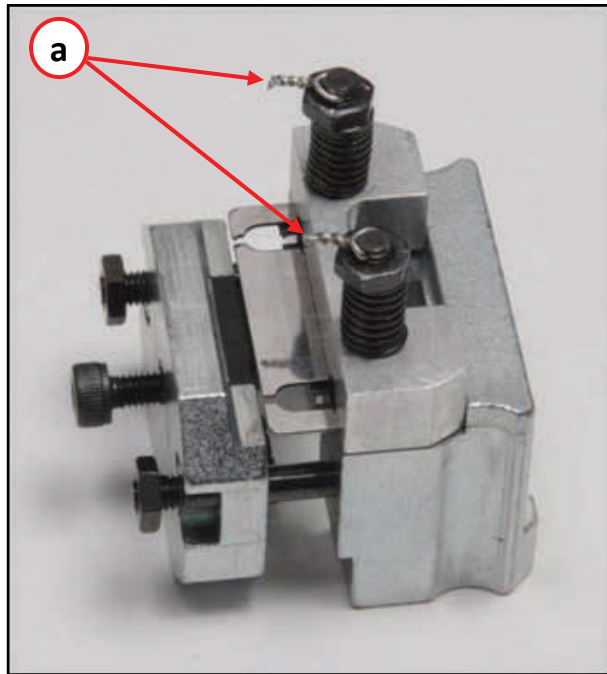

Figure 10
- 10) Clip excess Safety Wire from each post per Figure 10 (a) and bend twisted portion around the post per Figure 1 to prevent snagging during use.
- 2) Place die set on a hard surface as shown in Figure 10.
- 3) Straighten and cut the twisted safety wire from the Blade Retention Posts, Figure 10 (a).